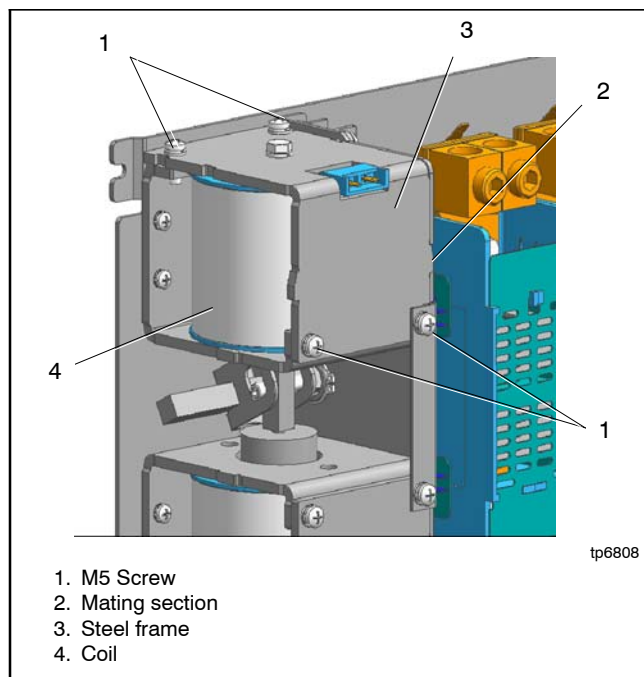

Figure 7-20 Coil and Frame
1. Remove four M5 screws. See Figure 7-20.
2. Remove the steel frame by sliding toward the left. The frame is fit to the body at the mating section. See Figure 7-20.